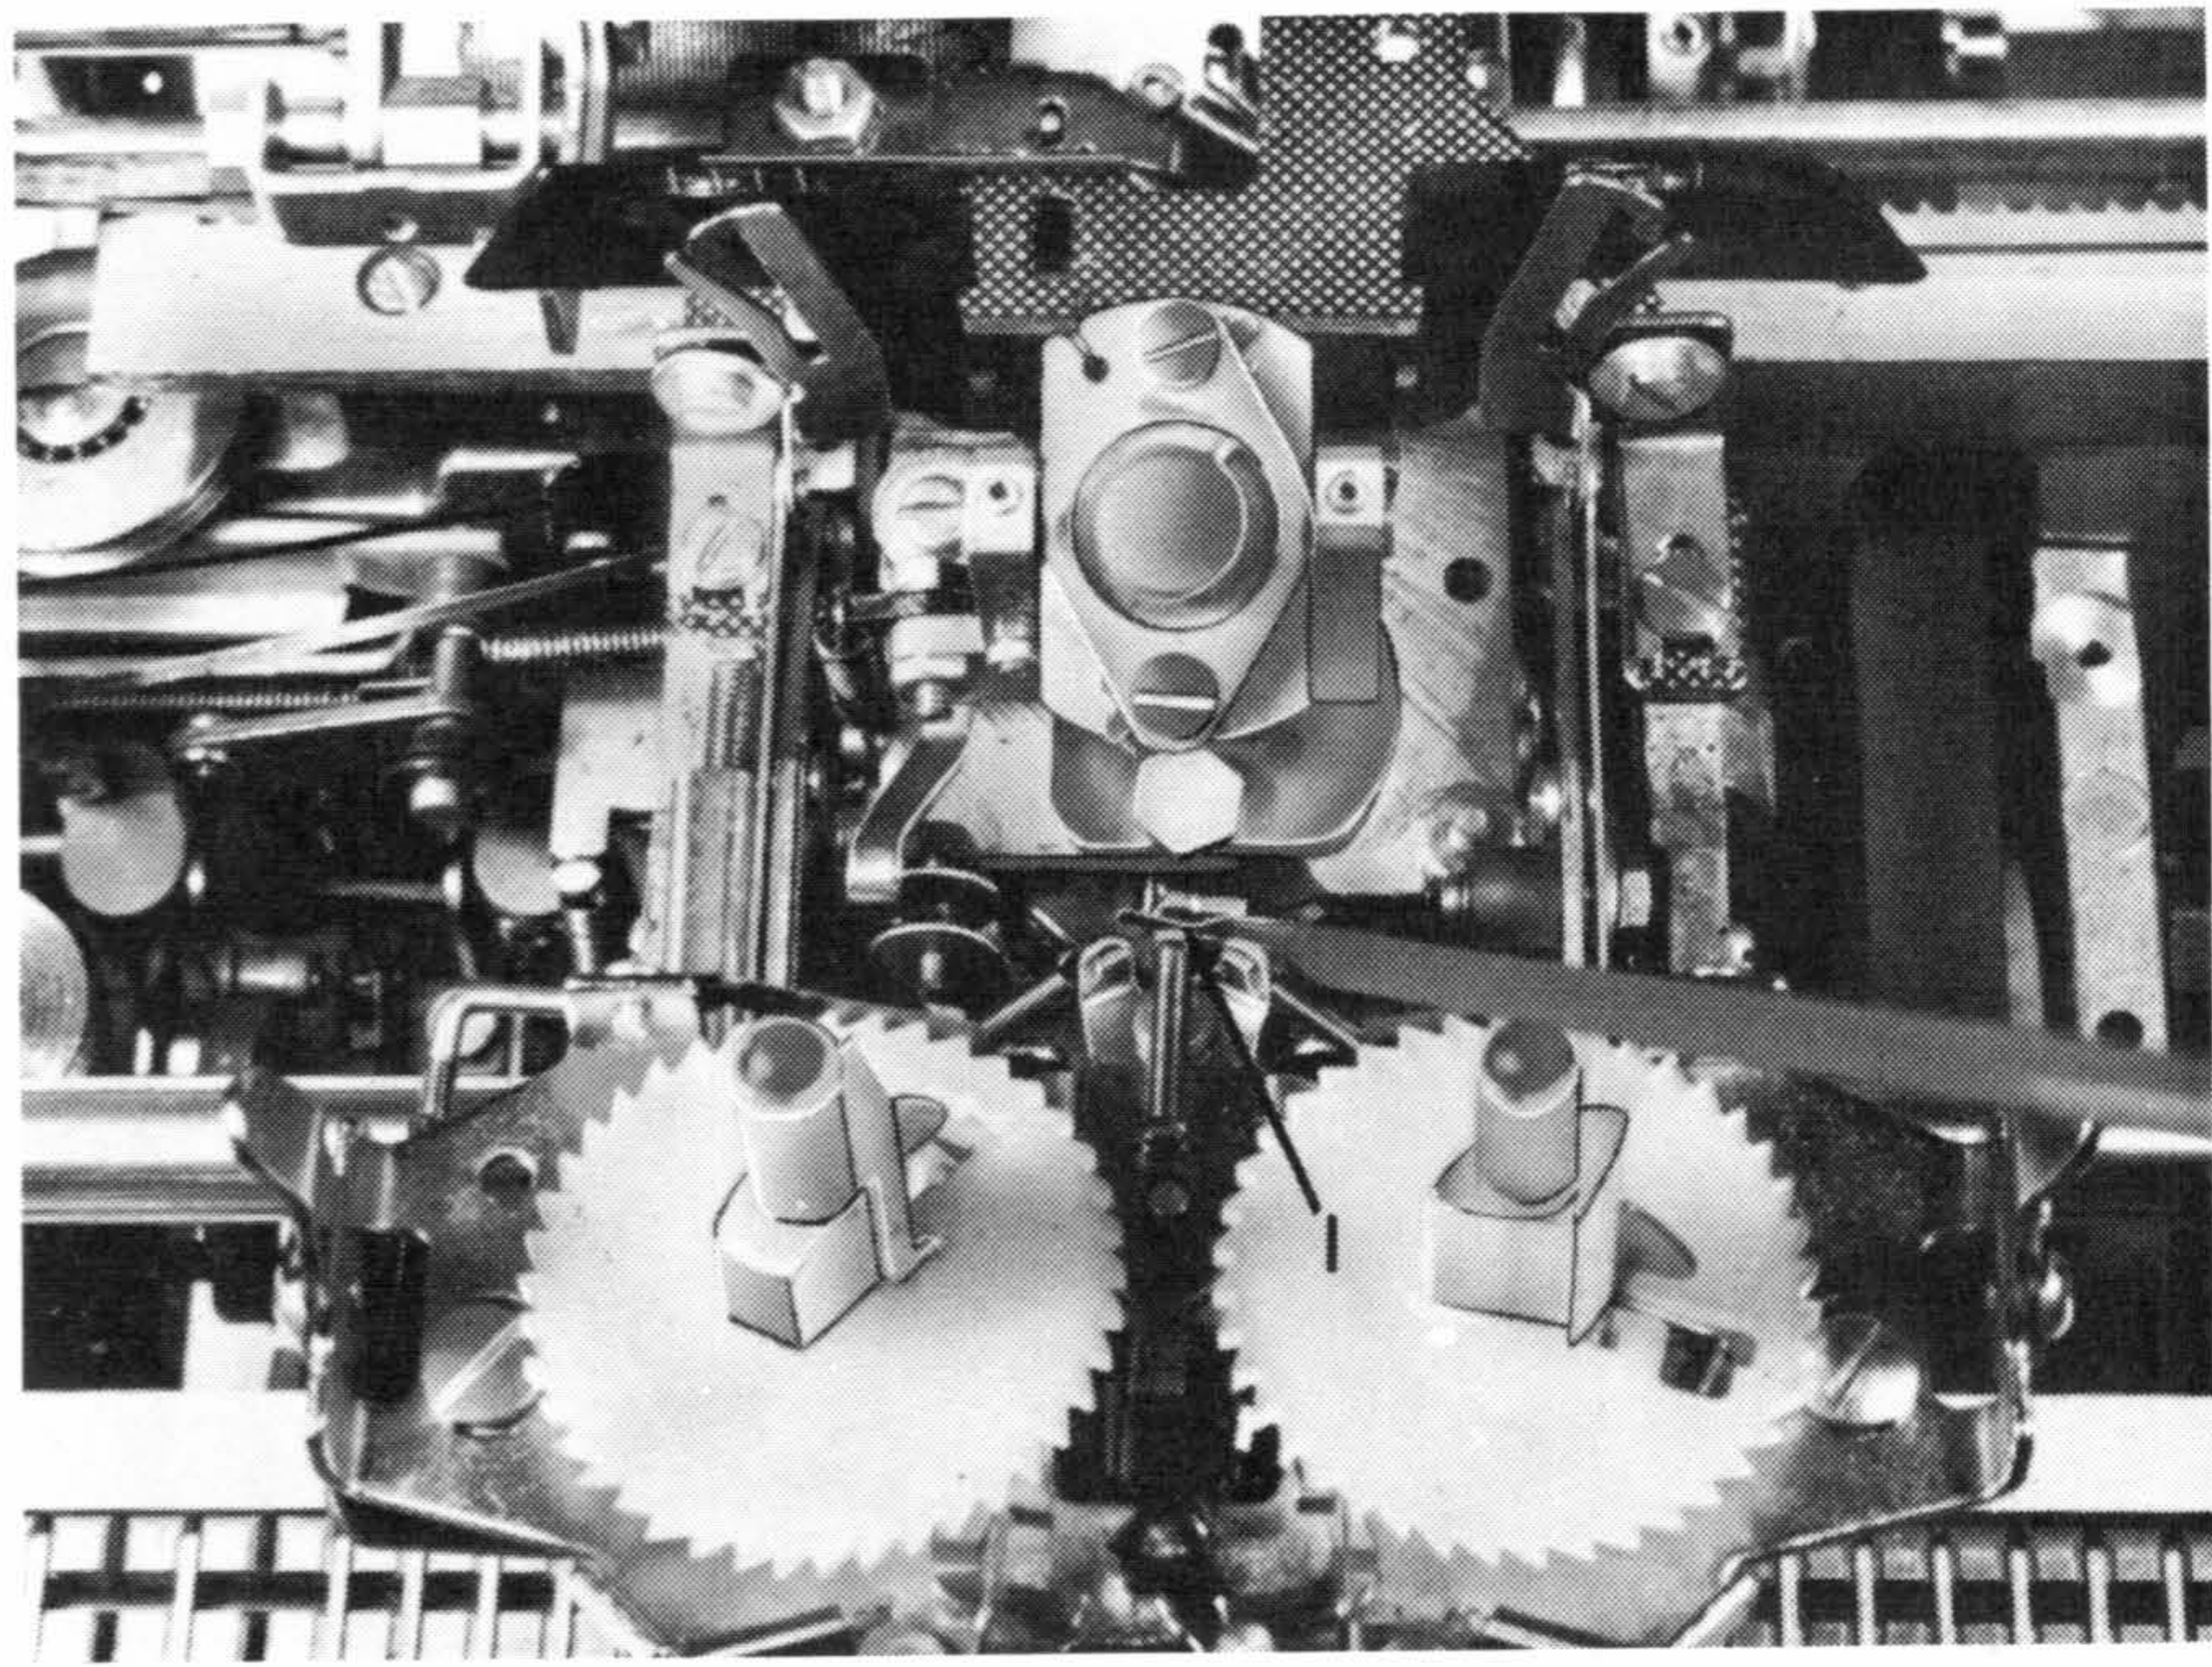

Figure 18. Rotate Tape Replacement
7. Pull the tape through and insert the T-tip of the tape into the T-slot of the pulley (#1, Figure 18).